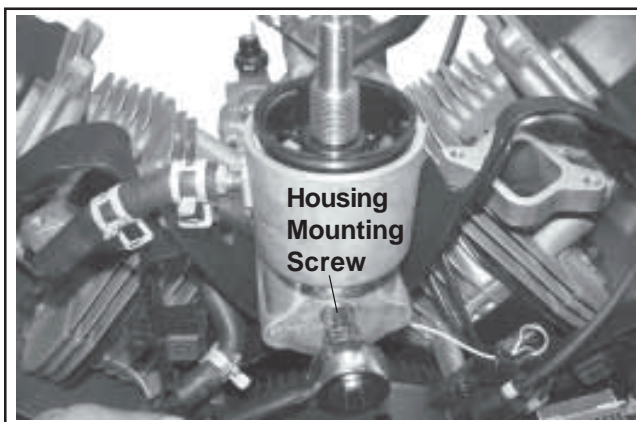

Figure 8-21. Removing Oil Filter Housing From Adapter.
1. Remove the screw securing the oil filter housing and individual O-Rings to the adapter. Carefully separate the parts. See Figure 8-21.